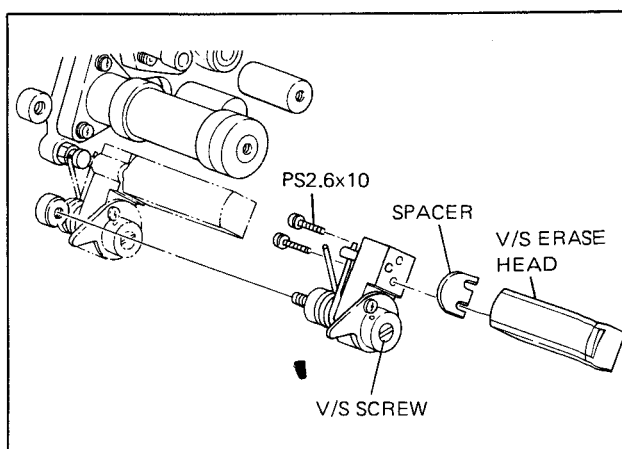

Fig. 10-43. V/S Erase Head Height Adjustment
7. Mount V/S erase head assy referring to Fig. 10-43, and check the height of V/S erase head by performing Steps 1 to 4 again.